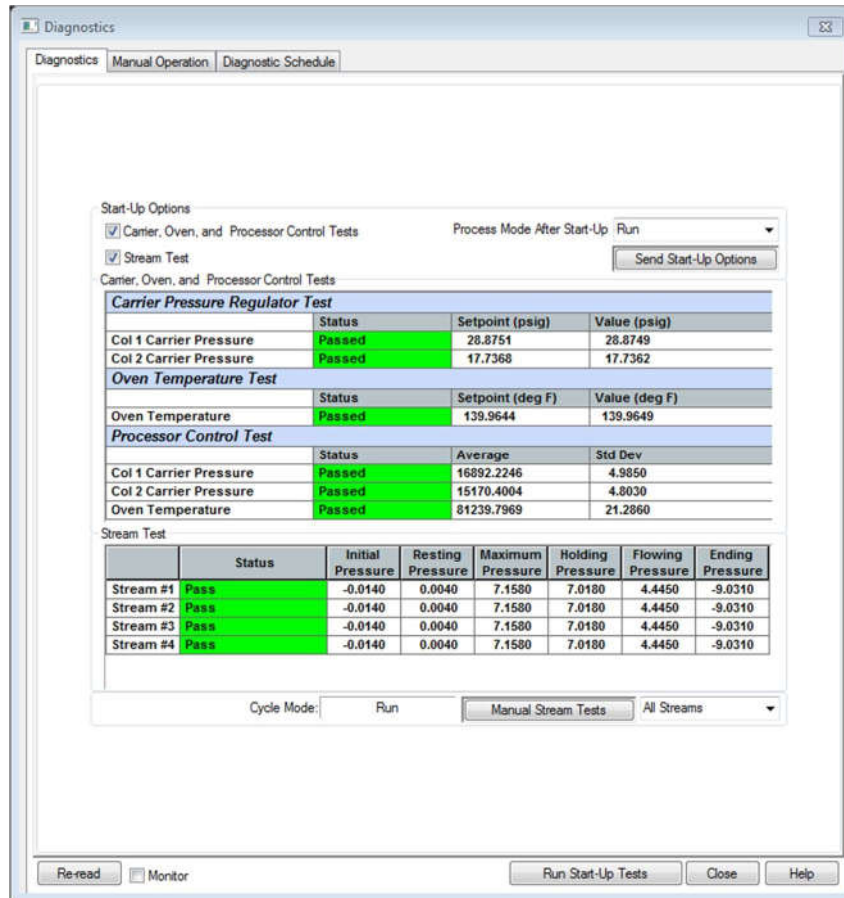

Figure 11 Diagnostics Report
- On-Board Diagnostics – As mentioned earlier, two things that are necessary for repeatable results are constant temperature and constant carrier flow. As more analyzers move away from older analog designs to more modern and flexible digital control algorithms, it is now possible to monitor control variables. The control variable will give an indication of how well digital control algorithm is in control. Analyzers now have the ability to have on-board diagnostics which automatically monitor key performance indicators, such as control variables, as well as monitor the sample system for any signs of leakage. Figure 11 is an example of a diagnostics report.